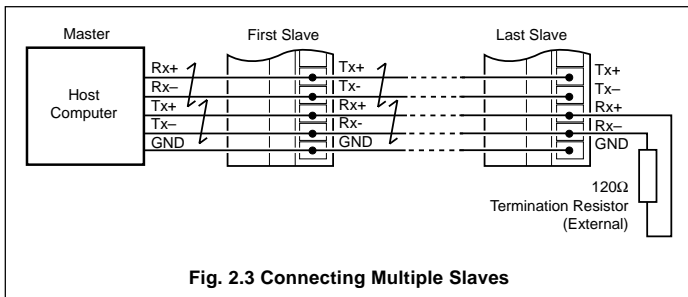

Fig. 2.3 Connecting Multiple Slaves
2.5 Termination Resistor – Fig. 2.3
For long transmission lines, a 120Ω termination resistor must be fitted to the last slave in the chain – see Fig. 2.3.
Connections to the MODBUS serial board must be made as shown in Figs. 2.1, 2.2 or 2.4. Connections on links with multiple slaves must be made in parallel, as shown in Fig. 2.3. When connecting cable screens, ensure that no 'ground loops' are introduced.